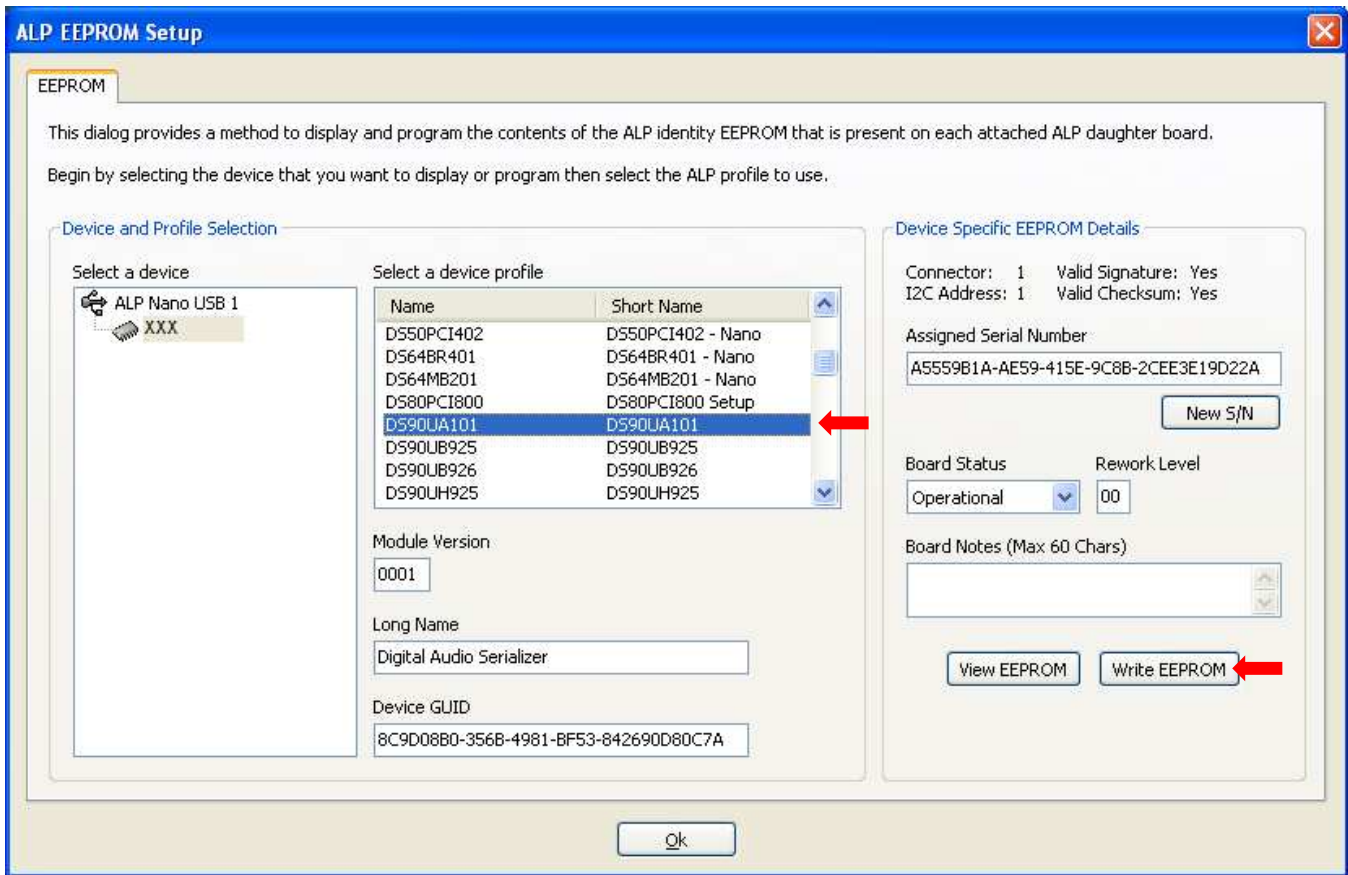

Figure 3-5. Selecting Device Profile
4. **Select a device profile**, which is **DS90UA101** for example, and then click on **Write EEPROM** (Figure 3-5).